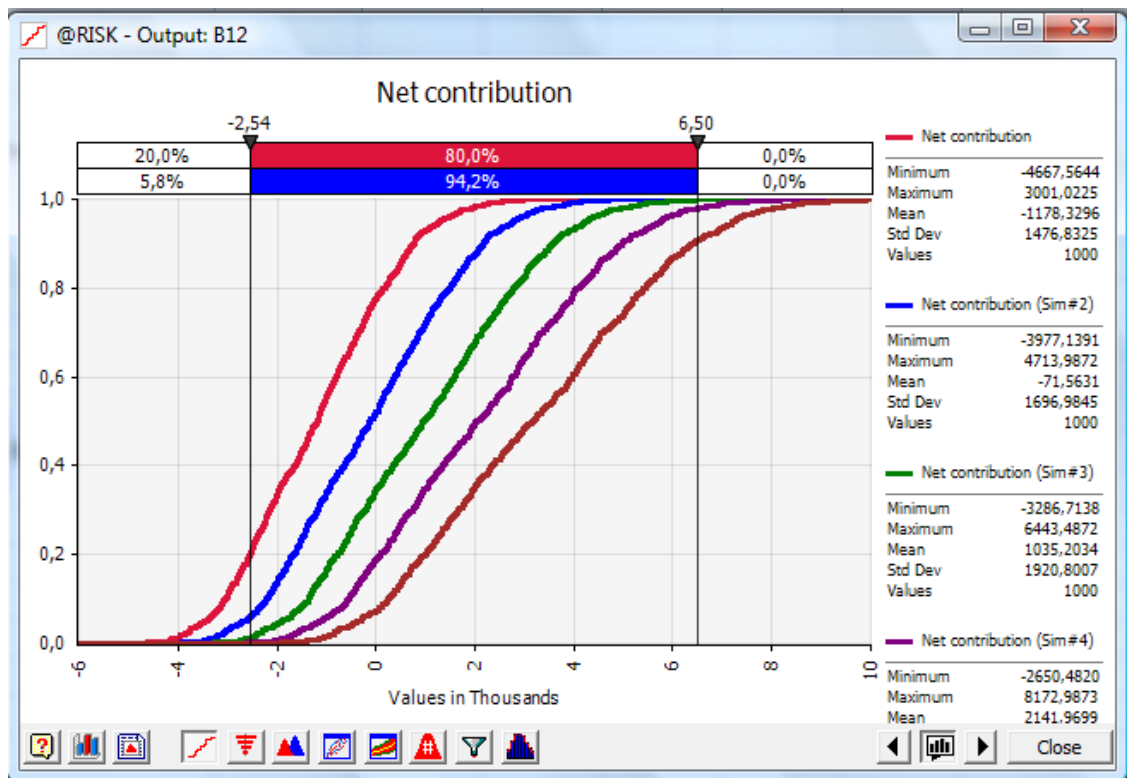

Figure 8: The five risk profiles for the five price levels showing that higher prices dominate lower price levels
10.4. Figure 8 shows that the risk profile for Price = \$0.60 dominates all of the others.